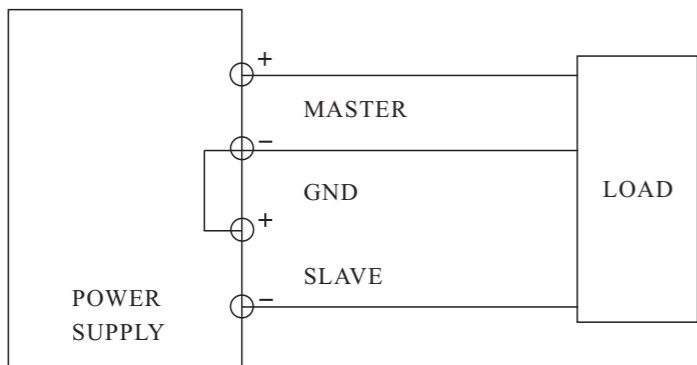

Fig.4-4 Positive and Negative Supply.
A. Positive and Negative supply (Fig.4-4).